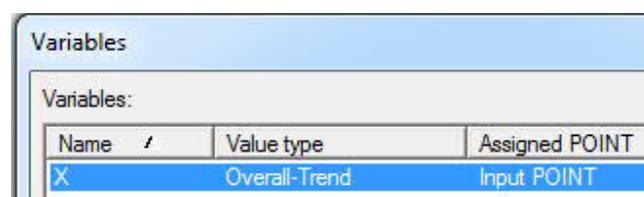

Figure 6. Variable List showing completed variable definition
- iv. After pressing Save, the variable will show up in the Variables list showing the Name (X); Value type (Overall-Trend) and Assigned POINT (Input POINT). [Figure 6]